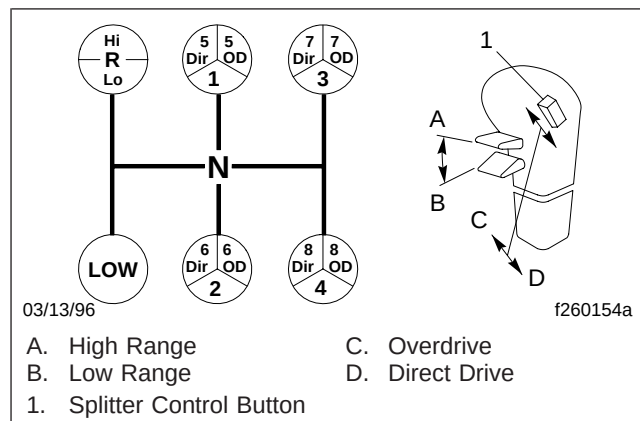

Fig. 8.23, Meritor 13-Speed RMO Model Transmission Shift Pattern
The Meritor RMO13–145A transmission has thirteen forward speeds and two reverse speeds. Each transmission consists of a 5-speed front section, and a 3-speed auxiliary section. The auxiliary section contains low and high range ratios, plus, an overdrive splitter gear. See **Fig. 8.23**.
4. While in 5th direct, and ready for the next downshift, push the range selection lever down into low range. Double-clutch through neutral, and shift into 4th gear. See Fig. 8.23. As the shift lever passes through neutral, the transmission will automatically shift from high range to low range.